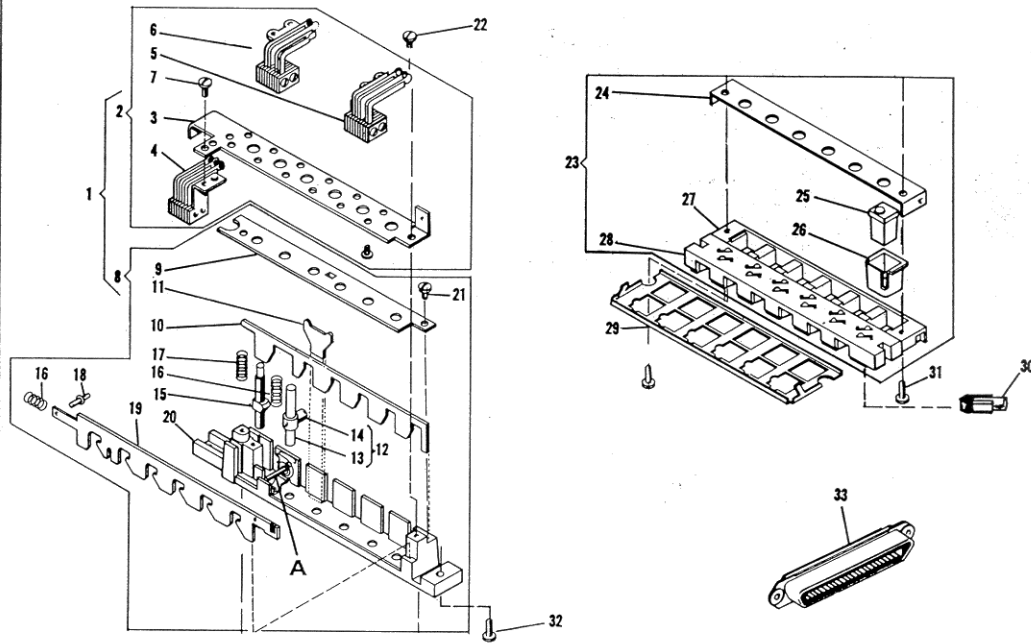

Figure 2. 598 and 599 Keys, Exploded View
When the 598 and 599 keys are installed together, connecting linkage must be provided so that both keys operate as a unit. In ITT "Corinthian" multi-key telephones, a pivot bar assembly (180565-1), return spring (190329-1) and shoulder screw (190354-1) are used to interlink the two assemblies. The coil spring (16, figure 2) and pin (18) are discarded from both keys in this type installation.
- (b) When the hold button (or plunger) is pushed slowly to its bottom position, its toggle pin (A, figure 2) must return freely to the vertical portion of its guide slot.
* Force required to move the latch bar (19, figure 2) to its opposite stop when no buttons are in operated position.